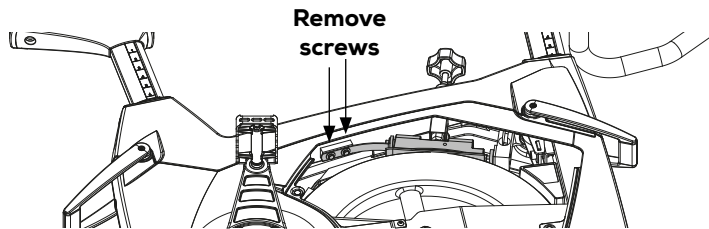

Figure 24
- 2) Remove the two screws holding the brake block to the frame by using an 8 mm wrench, see figure 24.